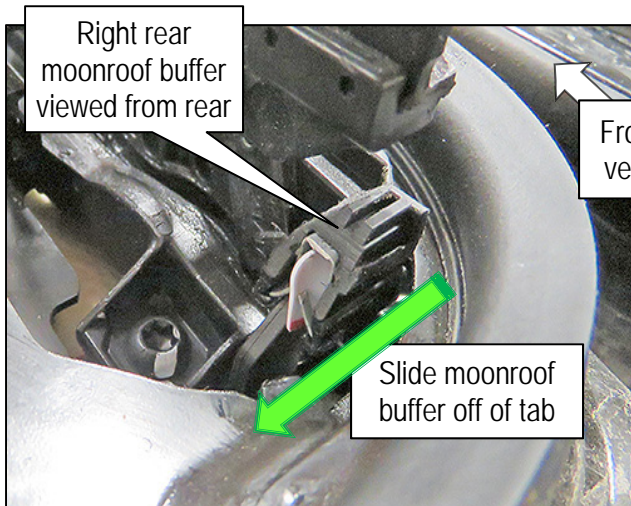
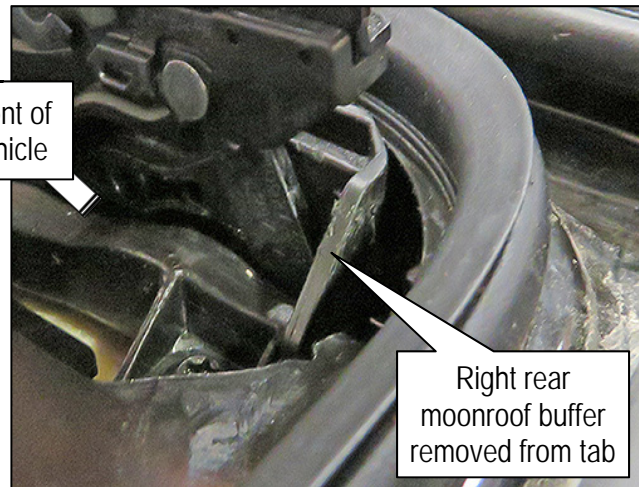

Figure 6
Figure 7
6. Slide the moonroof buffers sideways toward the center of the vehicle, one at a time (see Figure 6 and Figure 7) to remove them.